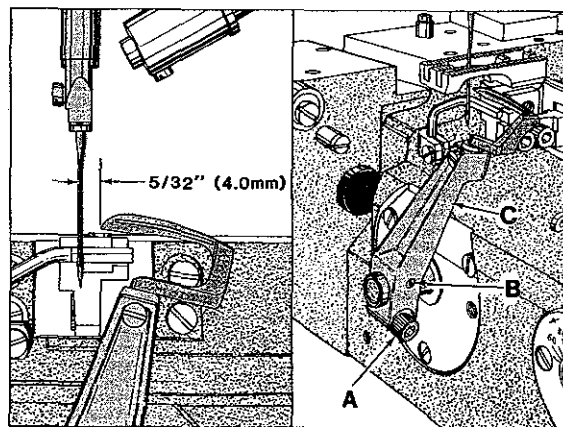

Fig. 7
Insert a new needle, type and size specified. With looper positioned at extreme right end of travel, distance from centerline of needle to point of looper should be $5/32$ inch (4.0mm). Adjustment can be made by loosening screw (A, Fig. 7) and turn screw (B) clockwise to increase looper gauge or counterclockwise to decrease. Push looper holder (C) to the left while making this adjustment and locking with screw (A).